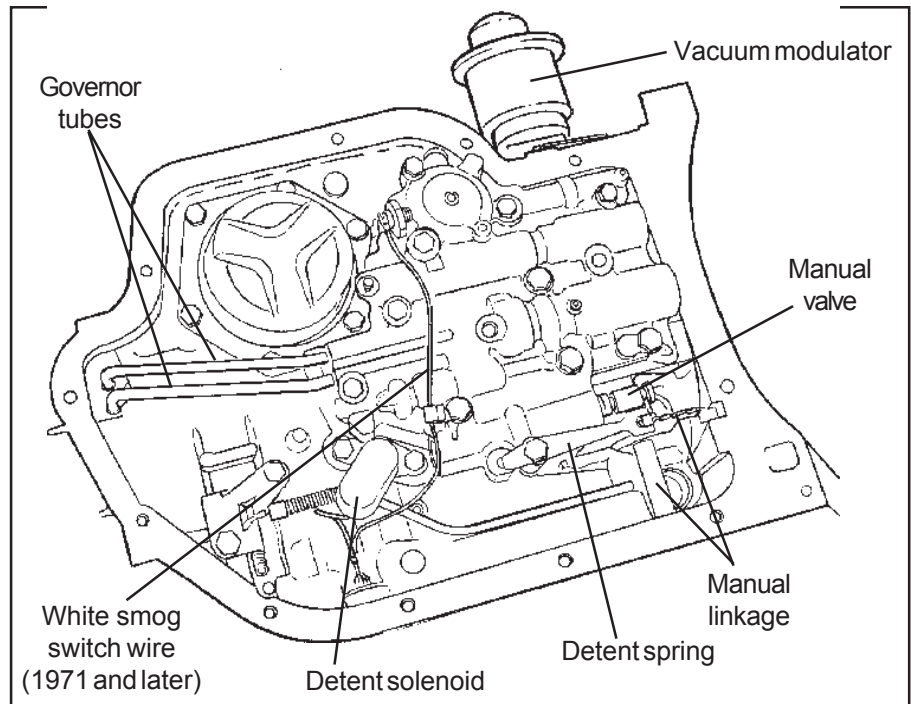

Figure 5
STEP 3. Observe the location of the following (See Fig. 5) Manual linkage, detent spring with roller and the way linkage engages the manual valve in the valve body, governor tubes and their
STEP 13. Install all the valve body bolts **finger tight**. Make sure the detent spring is in position and riding on the internal shift lever (**See fig. 5**). Make sure the manual valve is engaged with the pin on the internal shift lever. Tighten all valve body and solenoid bolts to 8-10 lb.ft. (11-13.6 Nm). Route the white spark control wire and connect to pressure switch on valve body. Check operation of manual valve by running range selector through all gear positions.